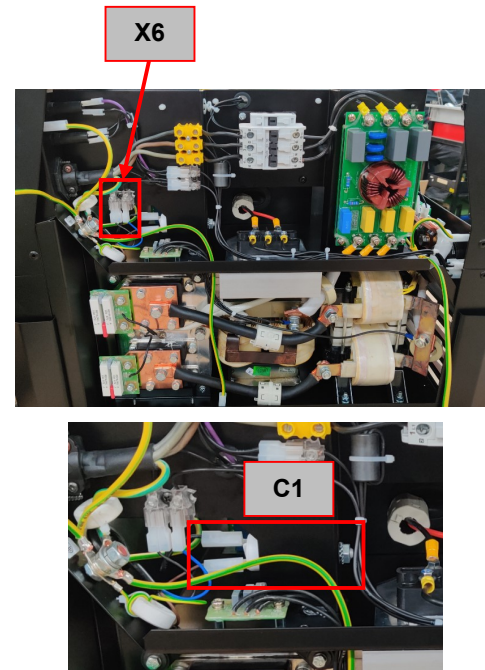

Figure 10 – X6 and C1 location
8. If the fan does not run, check the 230Vac at terminal strip of auxiliary transformer T2 between point 1 and 2. If voltage is present and the **J26** leads are jumped, the fan or the fan capacitor may be faulty. Correct value for fan capacitor **C1** is 3uF +/-5%. See **Figure 10** for C1 location.
10. Using the flat head screwdriver remove one of the wires from connector **X6**. See **Figure 10** for X6 location. This will simulate the activation of one of the thermostats.